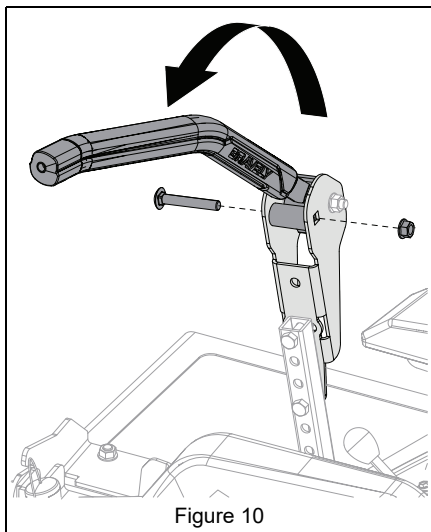

Figure 10
8. Rotate steering lever inward and reinstall eccentric spacer using original hardware. See Figure 10.